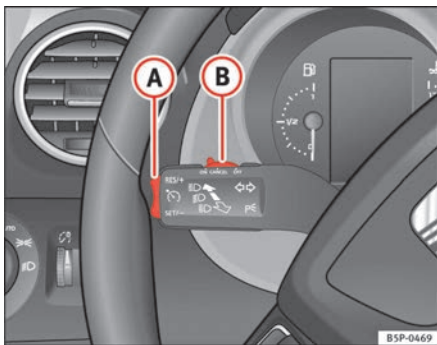

Fig. 147 Indicator and main beam headlight lever: switch and rocker switch for the cruise control
- Press the lower part **SET/-** of the rocker switch ⇒ fig. 147 **A** once briefly when you have reached the speed you wish to set.